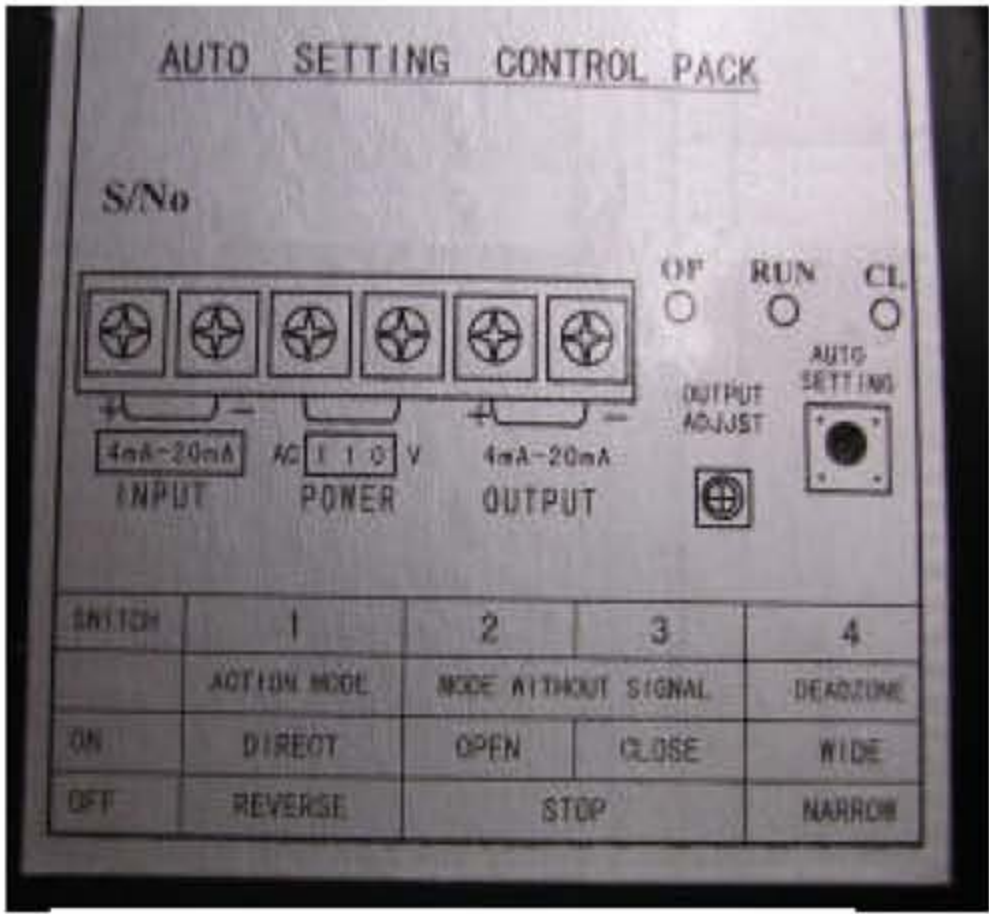

Fig. 1 – Switch Mode Settings
MODE SWITCHES- Dip Switches 1-3 are used to set the action. The unit is set at the factory for direct acting where the unit drives in a CCW rotation upon receiving a low signal, i.e. 4mA = CCW. The rotation is viewed from the top of the unit. The position of the DIP switches also determine what the unit does if the input signal is lost. See the Fig 1 to determine the proper positions.
2. See Fig 1 to determine how to select loss of signal.